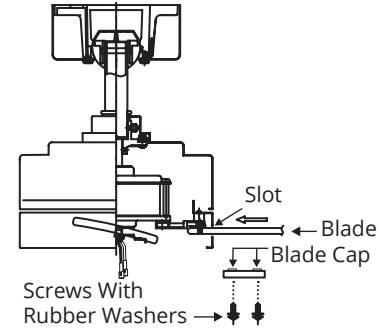

FIGURE 17
1. Insert fan blades through the slots in the motor housing. Align the holes in the fan blades with the fan motor assembly holes and secure with the fan blade attachment screws and blade caps provided (Fig.17).